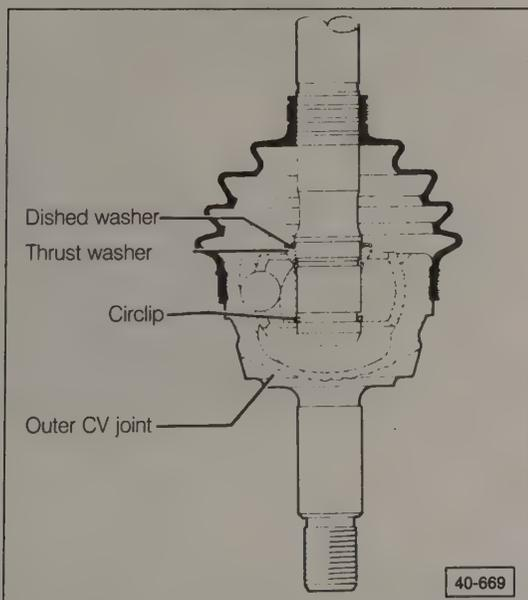

Fig. 5-6. Cutaway view of outer CV joint, showing positions of circlip and washers.
- When installing the joint, use a new circlip in the groove at the end of the axle shaft. See Fig. 5-6. Drive the joint onto the shaft until the circlip is seated. Fold the boot back over the joint, using a new clamp to hold it.